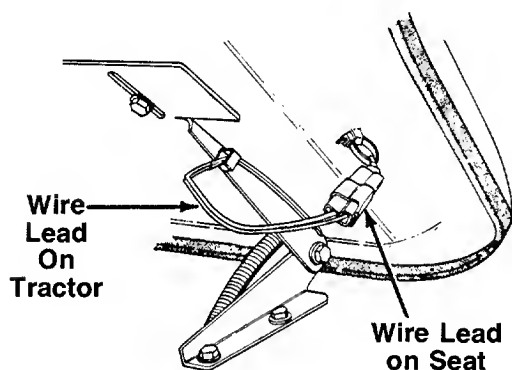

FIGURE 2.—Models 843, 853 and 863 Shown
2. Plug the wire lead which is in the wire harness beneath the seat into the plug on the wire lead extending from the right hand side of the seat. On models 843, 853 and 863, make certain to route the wire in front of the right hand seat bracket so the wire is not pinched when raising and lowering the seat. See figure 2.